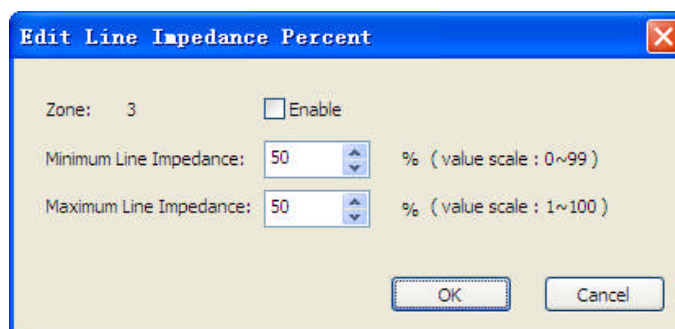

Figure 10 Edit Line Impedance Percent Window
- a. Double-click the row corresponding to the zone line impedance percentages that needs to be set. The Edit Line Impedance Percent window is displayed, as shown in Figure 10.